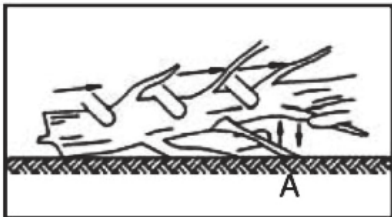

Fig.3
Limbing a tree is the process of removing the branches from a fallen tree. Do not remove supporting limbs (A) until after the log is bucked(cut) into lengths (Fig.3). Branches under tension should be cut from the bottom up to avoid binding the chain saw.